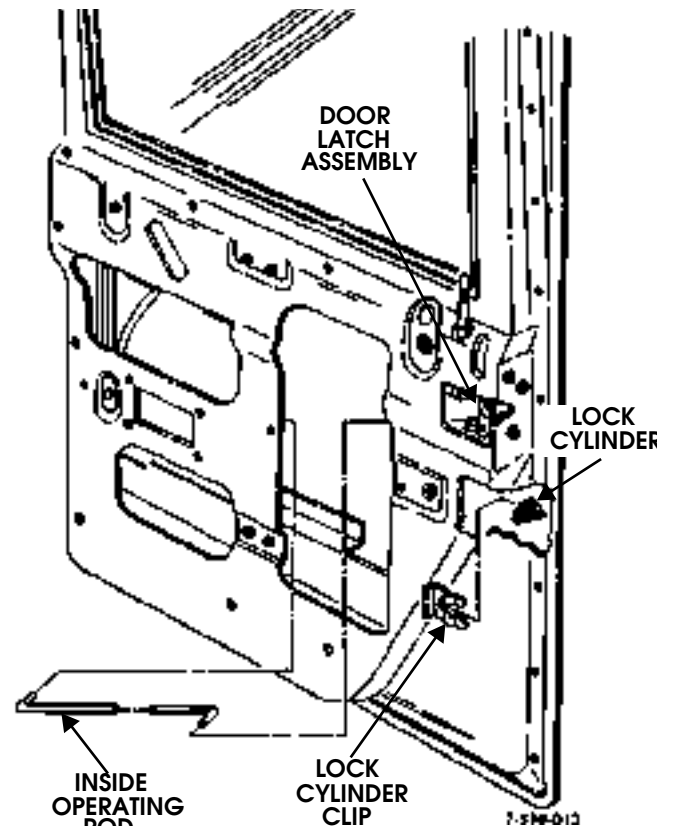

Figure 10-63: Inside Operating Rod Location
7. Disconnect inside operating rod from door latch assembly and remove rod (Figure 10-63).
6. (Front doors only) Secure lock cylinder in door with lock cylinder clip (Figure 10-63).